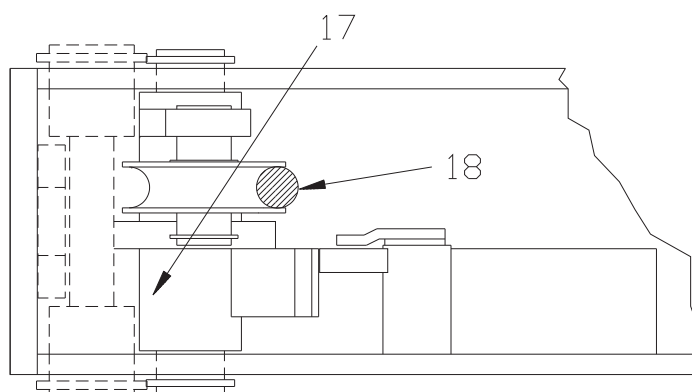

Fig.45 Positioning of lifting cable sensors
Before operating with the lifter check that the cables are in correct position on the pulleys. Close the panel, put the switch (QS) in pos. 1 and make the lift rise until clearing the wedges (A-B-C-D); then put the switch in position 0 and close them again. Put the main switch (QS in fig. 49) in position 1, press the lowering button (SB2) and check if the lift lowers. If this doesn't happen, check the adjustment of the four cable sensors (pos. 17, fig. 45) and, if necessary, adjust them by acting on the screw of the micro switch release lever (pos. 36, fig. 50).